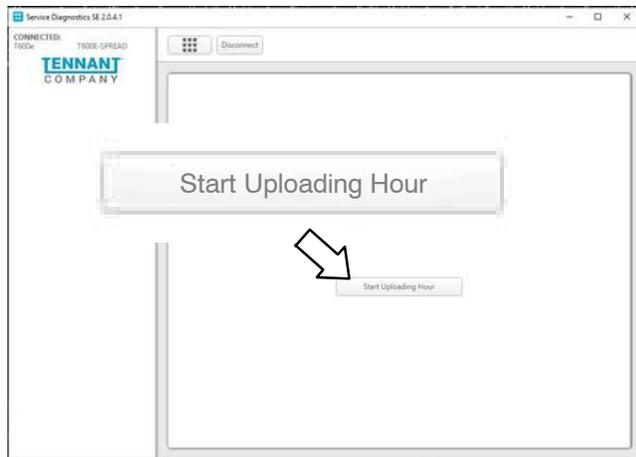

Fig. 18
12. Press the Upload Hour button to verify the machine is connected to the cloud (Figure 18).
13. Press the Start Loading Hour button (Figure 18).